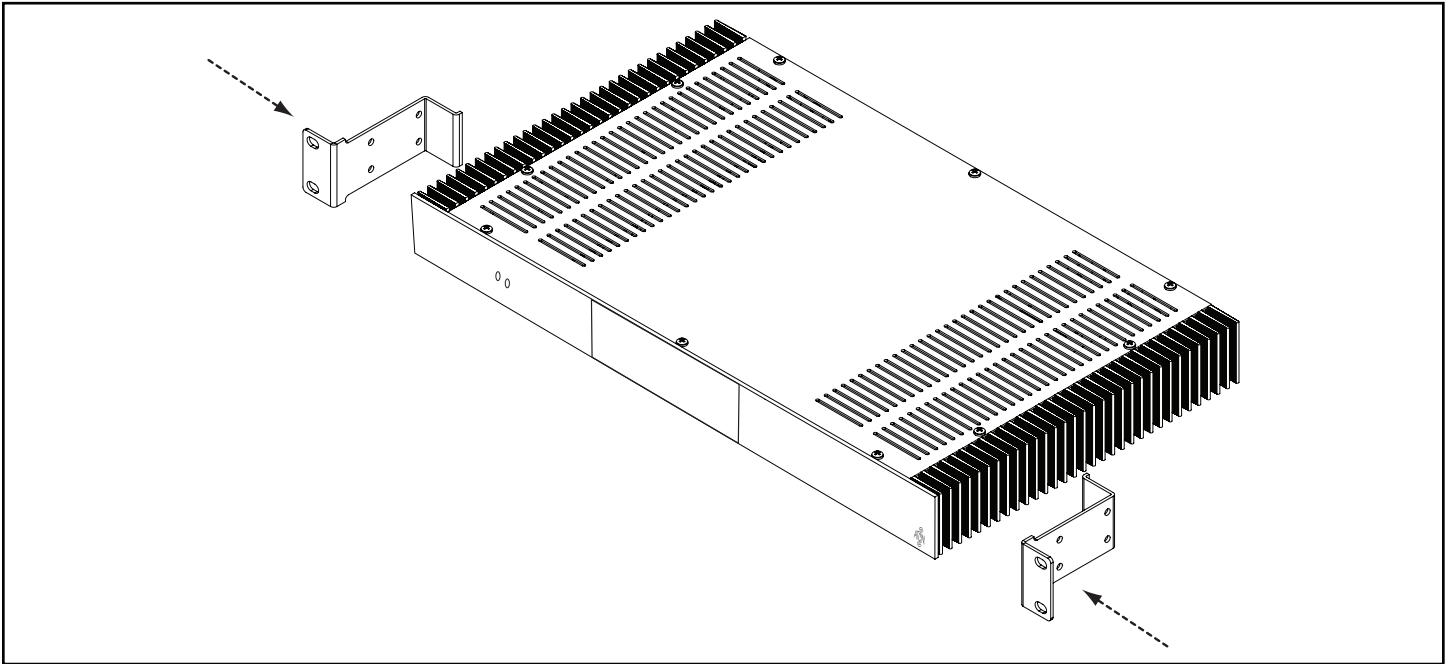

Figure B-1
1. Slide the rack mount kit onto the A275 chassis from the front as shown in **Figure B-1**.